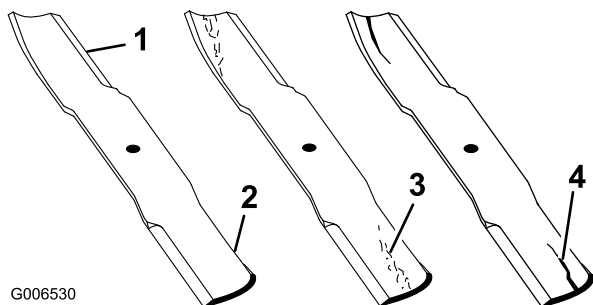

Figure 84
1. Inspect the cutting edges (Figure 84). If the edges are not sharp or have nicks, remove and sharpen the blades. Refer to Sharpening the Blades (page 55).
2. Inspect the blades, especially the curved area. If you notice any cracks, wear, or a slot forming in this area immediately install a new blades (Figure 84).